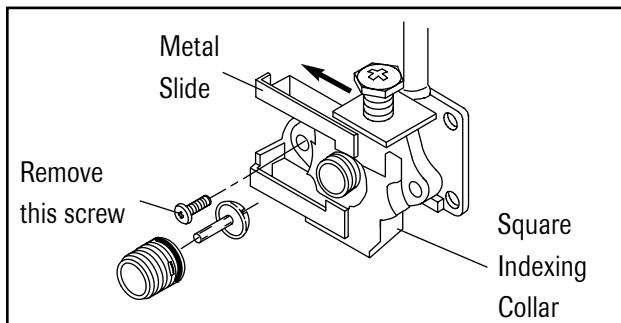

Figure 7b
2. **Square in shape:** It cannot be removed from the outlet block. Remove the screw opposite the brass screw with no slot. Push the metal slide on the collar past the space that had been occupied by the screw. Remove the connector and service valve (pressure outlets only) and discard (Figure 7b).